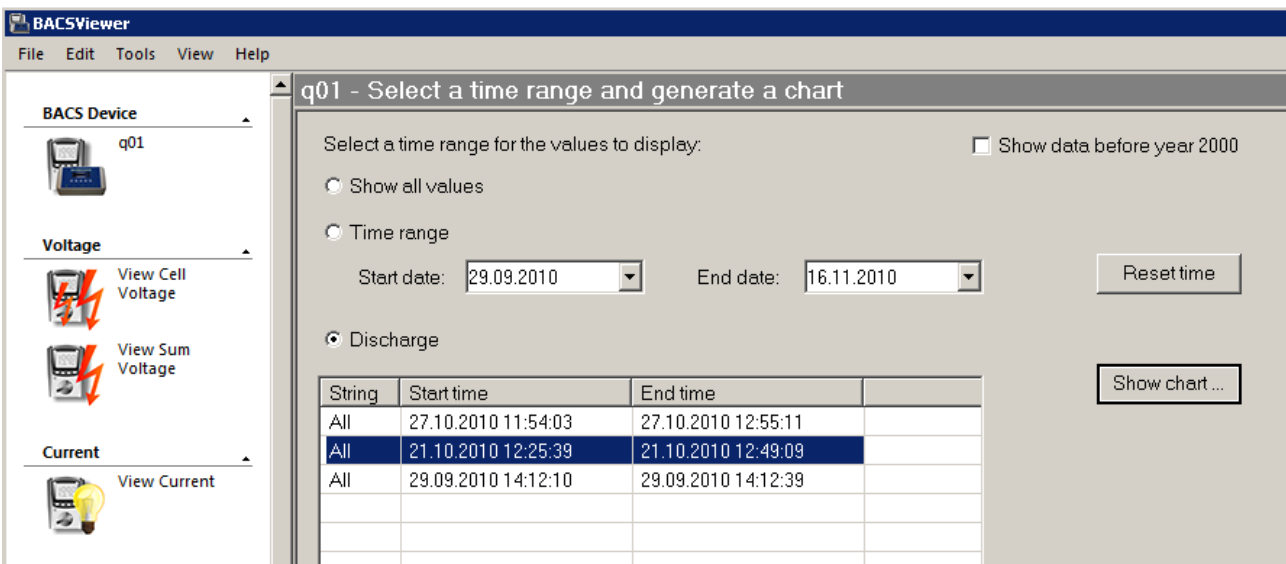

Figure 51: BACS Selection Discharge
The level and the duration of the Equalisation power is display via the BACS Viewer as shown in Fig. 51. A system that only requires the Equalisation process for just a short time period is a good system or a well-balanced system. That means that the accumulators are not drifting very much and should be in a good shape.
**How Equalisation works:** Figure 51: You can see how the Equalisation process works with this example. The light blue battery curve, marked with red arrows above, shows that this battery wants to rise over 13,5 V. The figure below displays the Equalisation current on this battery of 100% as long as this battery receives too much charging voltage. BACS module connected to this accumulator tries to prevent this risk for overcharging with full performance. At 5 p.m. the other batteries have now increased their own voltage level and are now also fully charged, so that the Equalisation current of the light blue battery can be reduced. At midnight the light blue battery requires just a small amount of Equalisation current and now behaviours like the other accumulators. Here you can see how the Equalisation process protected this accumulator from being overcharged for 12 hours.